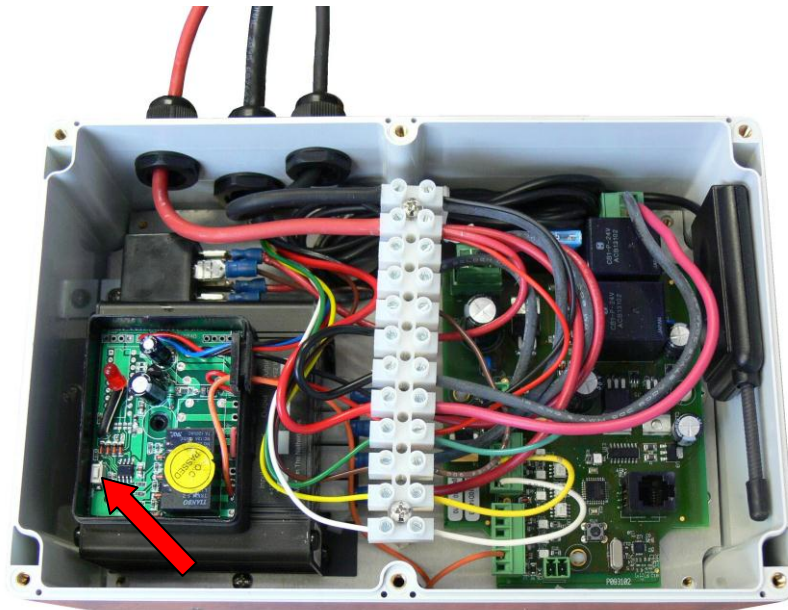

Figure 7 – Programming Button
2. Locate the small **WHITE** button shown with the Red arrow (see Figure 7).